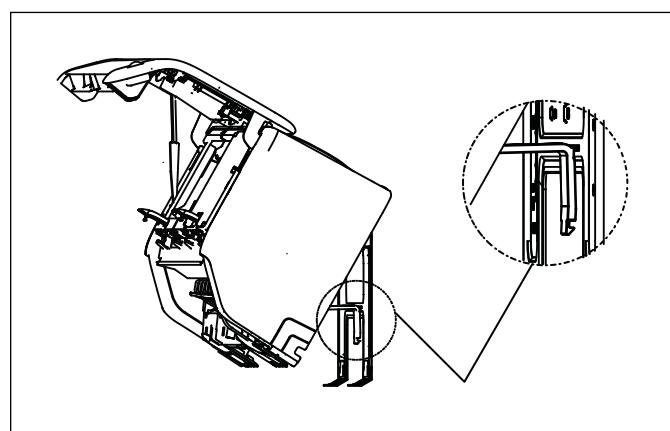

Figure 11 Unit Prop-Up Holder
**i** Make sure to arrange the drain hose according to Fig. 11 & 12: